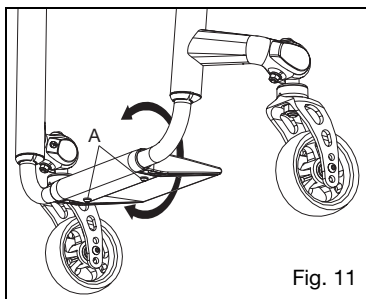

Fig. 11
1. Loosen the two screws (Fig. 11:A) on the bottom of the footrest using a 4mm Allen wrench.